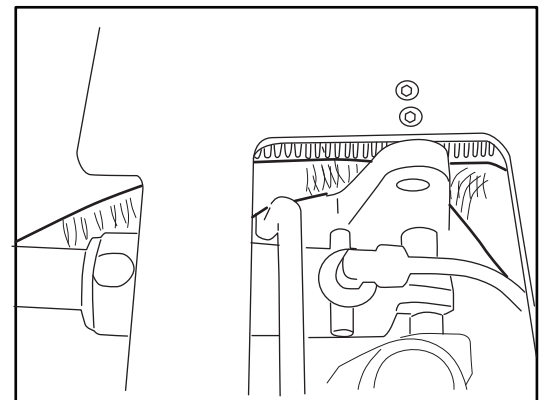

Figure 10. Top view of seat area. Left is back of seat / Right is front of seat.
**For Bel-20N Chairs:** Please refer to figure 10. Pull the umbilical upward and route along the outside of the spring area.